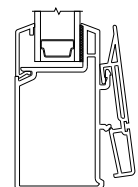

Figure 3A
- Remove the interlock from the fixed panel. Using a putty knife, place it between the interlock and the stile and pry it away from the stile. Remove the interlock using a rubber mallet by tapping the edge of the interlock. (fig. 3A)
- Install the interlock by positioning it over the hook as shown in fig. 3A. Tap the edge of it to engage the hook using a rubber mallet. Start at the top and work your way down the panel. After this has been completed, begin tapping on the flat edge until it snaps flush. Work your way back up the panel.